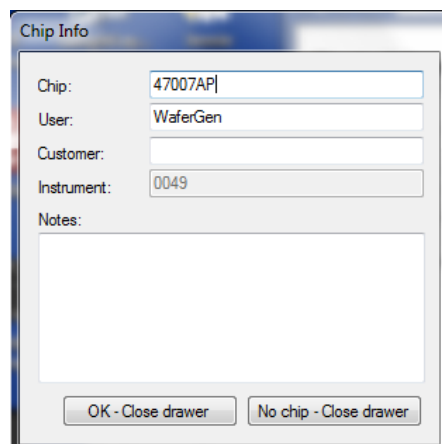

Figure 10. Chip Info dialog box.
4. The *Chip Info* (Figure 10) dialog box will open. Enter “Chip”, “User”, and other requested information. This information will be included in the analysis files and Summary report.